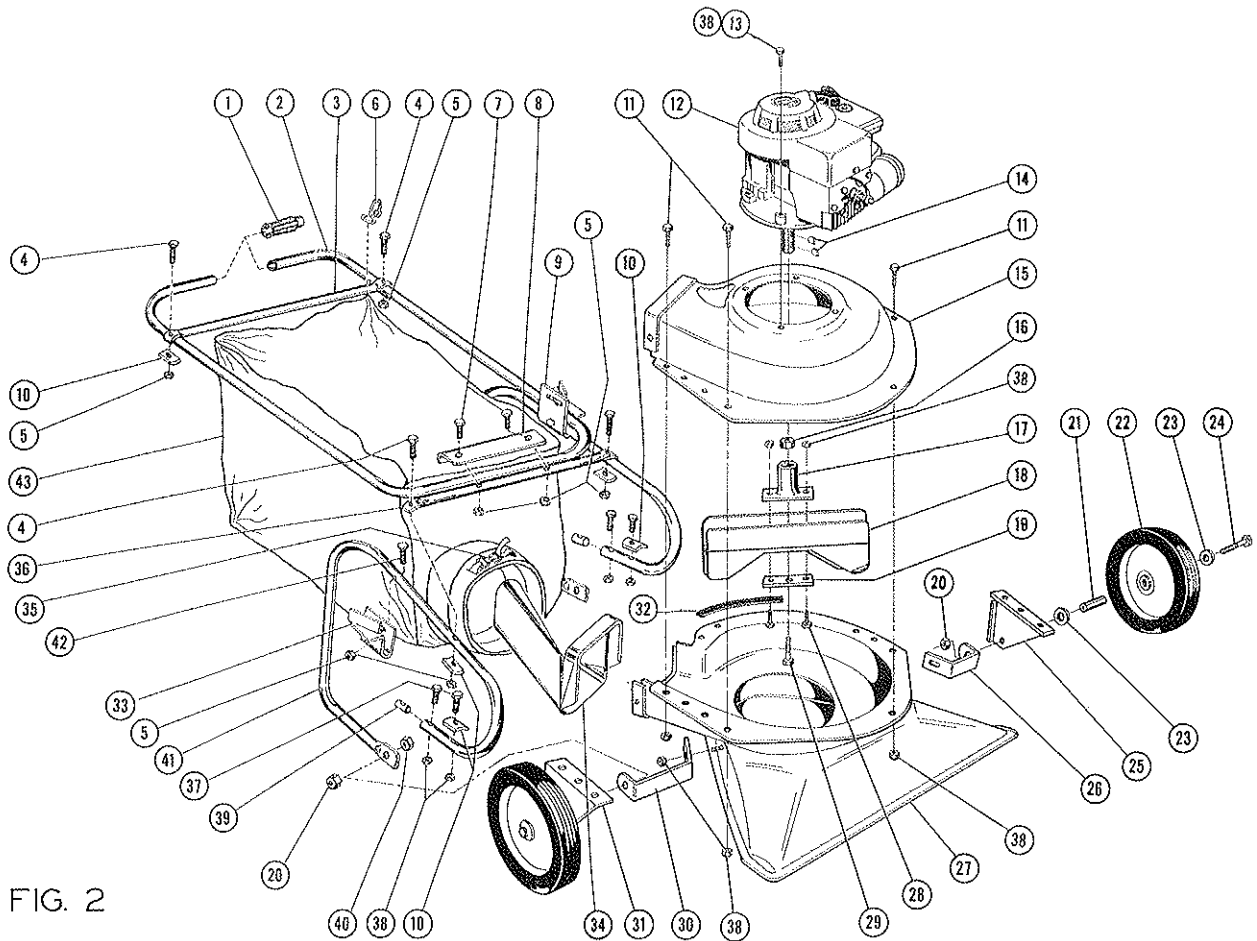

FIG. 2
2. Remove upper part of handle from machine by unlocking cams. Insert lower end under anchor plate, Item 8, Figure 2. Place handle in channel locks, Items 9 and 33, Figure 2 and secure into position by turning locking cams into place.
3. The bag hooks, Item 6, Figure 2, are taped to the cross bar on the upper handle. Remove these and insert them in the bag support straps. Install the bag as shown in Figure 3, by placing the four bag hooks over the cross bars.